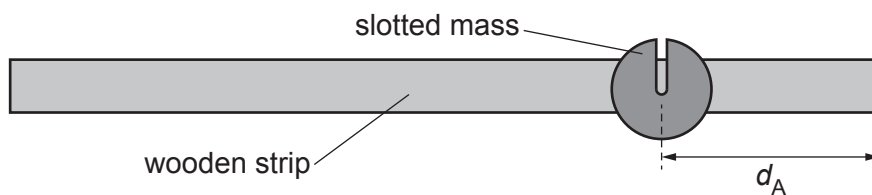

Fig. 2.1
- Attach the slotted mass to one of the wider faces of the strip approximately 10 cm from one end using a small piece of adhesive putty, as shown in Fig. 2.1.
- The distance from the centre of the slotted mass to the nearest end of the strip is d_A , as shown in Fig. 2.1.